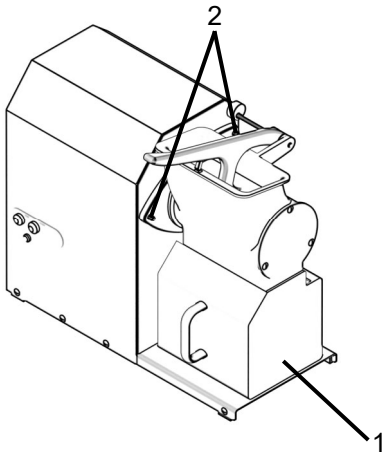

Fig. 7.2.1
- Remove the tray (ref 1 fig. 7.2.1)
- Unscrew the 3 knobs (ref 2 fig. 7.2.1)